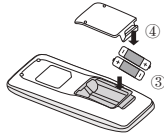

Fig.2
3. Place two 7# (AAA 1.5V) dry batteries, and make sure the position of “+” polar and “-” polar is correct (as shown in Fig 2③).
4. Reinstall the cover (as shown in Fig 2④).